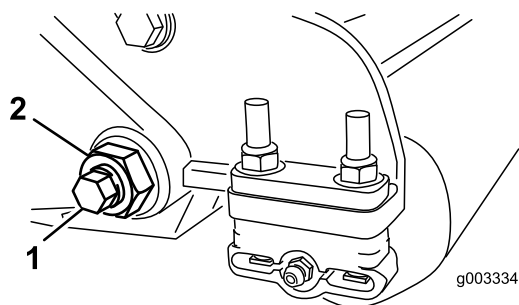
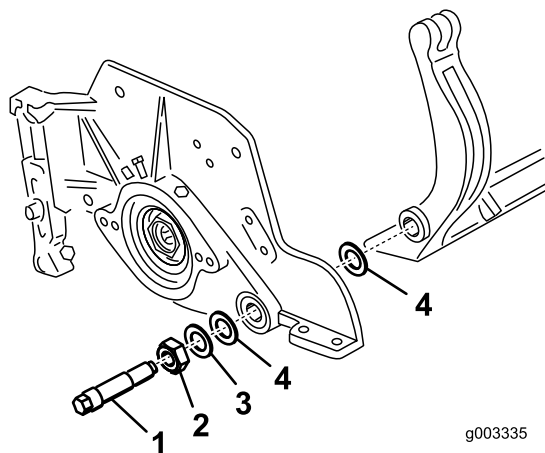
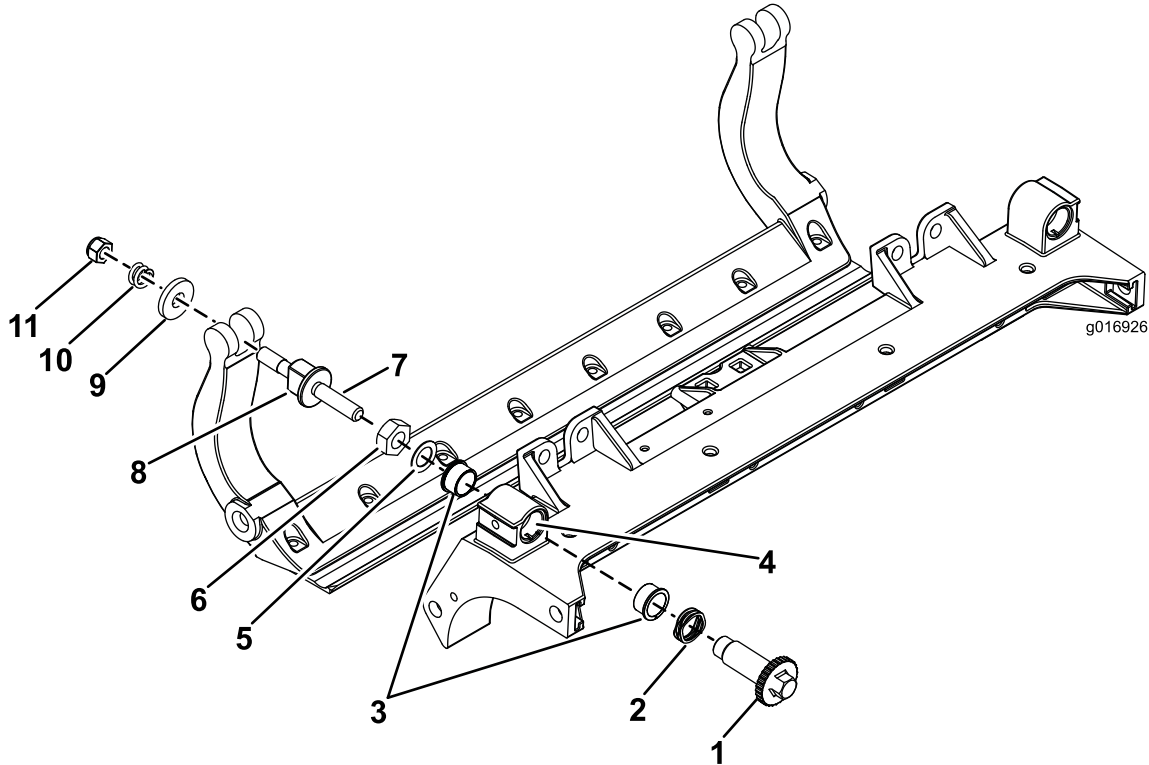

Figure 34
Figure 35
Figure 37
3. On each side of the machine, loosen the lock nut securing the bedbar bolt (Figure 34).
4. Remove each bedbar bolt allowing bedbar to be pulled downward and removed from machine bolt (Figure 34). Account for 2 nylon and 1 stamped steel washers on each end of bedbar (Figure 35).
2. Secure bedbar to each side plate with bedbar bolts (nuts on bolts) and 6 washers. A nylon washer is to be positioned on each side of side plate boss. Place a steel washer outside each of the nylon washers (Figure 35). Torque bedbar bolts to 27-33 (37-45 N-m). Tighten locknuts until the outside steel washer stops rotating and end play is removed but do not overtighten or deflect side plates. Washers on inside may have a gap.
1. Remove all parts (refer to *Installation Instructions* for HD DPA Kit Model No. 120–7230 and to Figure 37).
3. Align the keys on flange bushings to the slots in the frame and install the bushings (Figure 37).
4. Install a wave washer onto the adjuster shaft and slide the adjuster shaft into the flange bushings in the cutting unit frame (Figure 37).
5. Secure the adjuster shaft with a flat washer and lock nut (Figure 37). Torque the lock nut to 15 to 20 ft-lb (20 to 27 N-m).
9. Secure the bedbar to each side plate with the bedbar bolts (nuts on bolts) and 6 washers. A nylon washer is to be positioned on each side of side plate boss. Place a steel washer outside each of the nylon washers (Figure 37). Torque bedbar bolts to 27-33 ft-lb (37-45 N-m). Tighten locknuts until the outside steel washer stops rotating and end play is removed but do not overtighten or deflect side plates. Washers on inside may have a gap (Figure 35).